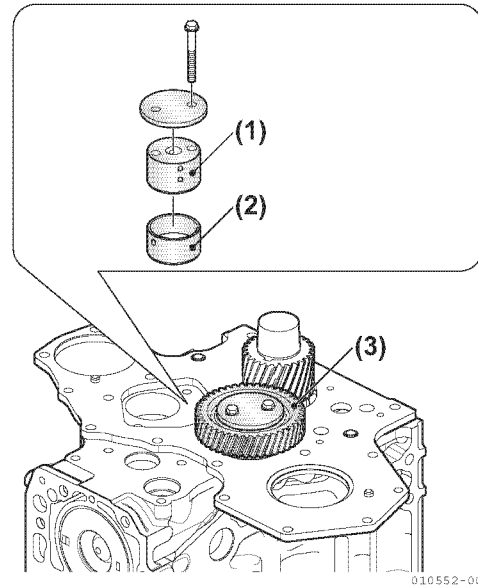

Figure 5-121
- The bushing is pressed into the idling gear. Measure the bushing inner diameter and the outer diameter of the shaft, and replace the bushing or idling gear shaft if the oil clearance exceeds the wear limit (Figure 5-121).